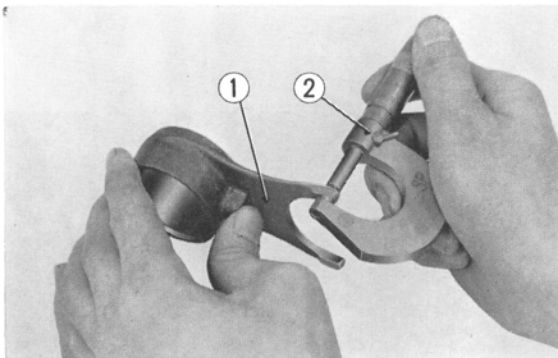

Fig. 126 ① Gear shift fork ② Micrometer
1. Set the left, right and center gear shift forks into the upper crankcase as shown in Fig. 126, then install the gear shift drum.